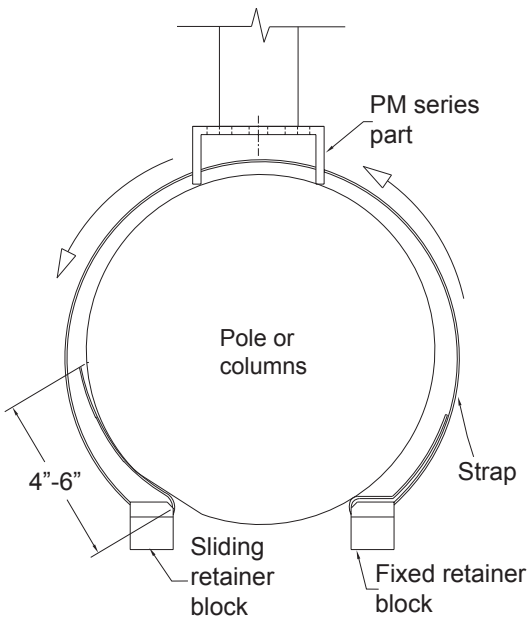

Figure 2
Insert the free end of the strap through the slots on the side of the pole mount channel, then through the sliding retainer block, non-beveled end first (*Figure 2*).
Holding the fixed block firmly against the pole, overlap the strap. Move the sliding retainer block up against the fixed retainer block so that their two beveled edges meet each other (*Figure 2*).
Step 6: Place the strap assembly around the pole, at the final mounting height and secure the retaining blocks with the carriage bolt, flange nut and flat washer. Be sure that the pole adapter is oriented into the right direction and with the bolt assembly on the opposite side of the pole adapters (Figure 2 and 4).